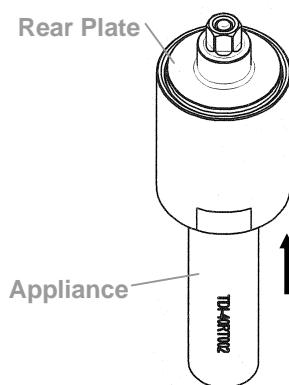

Fig. 139
- ② Use the appliance to push out the rear plate from the pulse cylinder seat. See Table 14 in reference to the proper appliance selection. (Fig. 139)